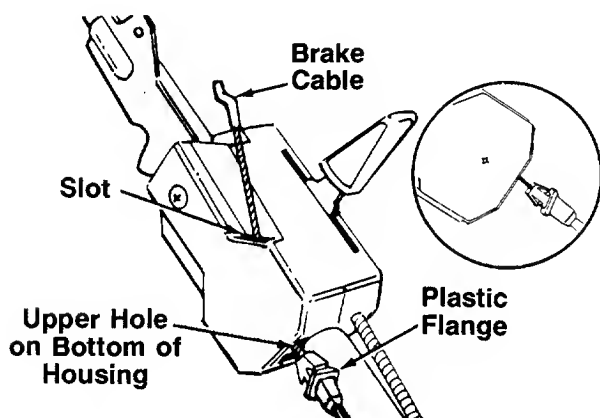

FIGURE 4.
1. The brake cable is attached to the engine, and has a "Z" fitting on the loose end. Route the brake cable underneath the catcher panel and below the lower handle. Place end of cable into the upper hole on the bottom of the control housing, and through the slot as shown. The angle of the plastic flange must be positioned downward as shown in figure 4. Be careful not to bend or kink the cable at any time.